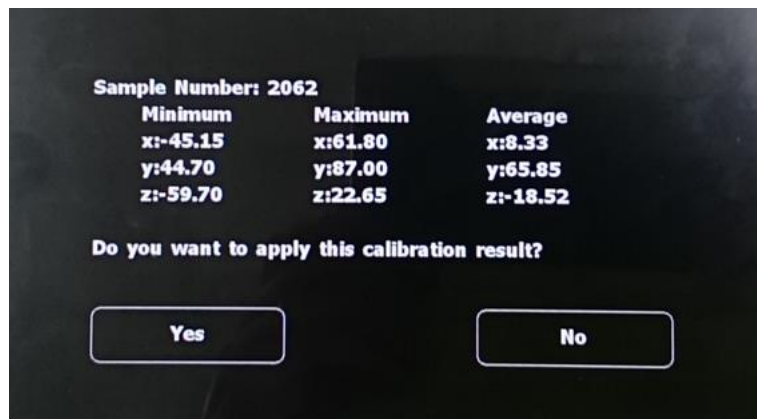

Figure 4-14 Magnetic Calibration Information
- When the Finished button is touched, the LCD content will be changed as shown in Figure 4-14. The minimum, maximum, and average values are displayed in the LCD. If the value is valid, please touch Yes button to apply the calibration result.